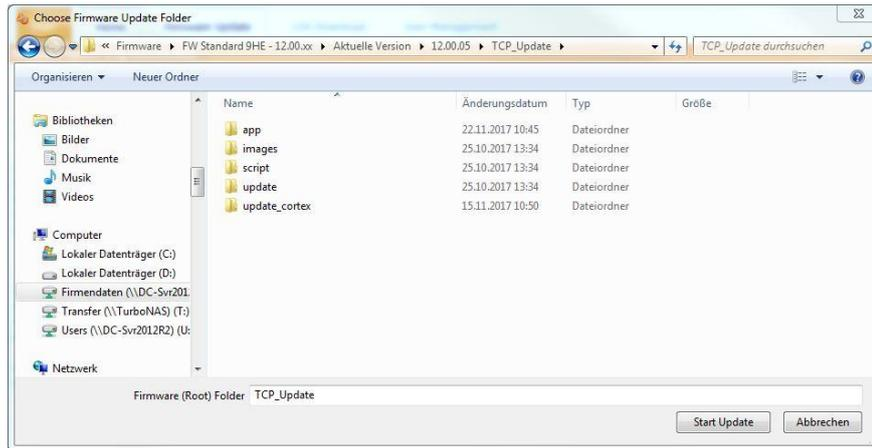

Figure 12-4 Directory level for TCP update
- ➔ Select directory level see Figure 12-4 below.